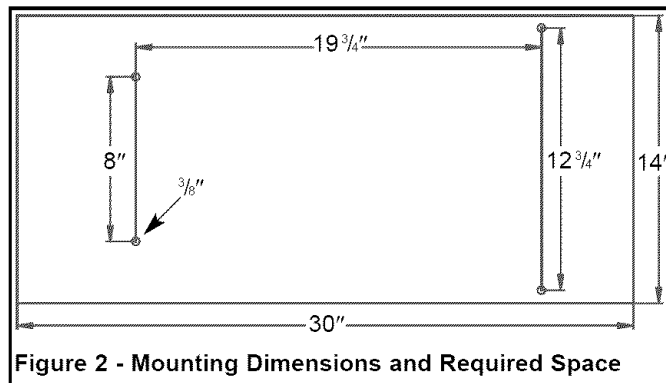

Figure 2 - Mounting Dimensions and Required Space
- Base of band saw has four mounting holes (see Figure 2 for dimensions and required spaces).